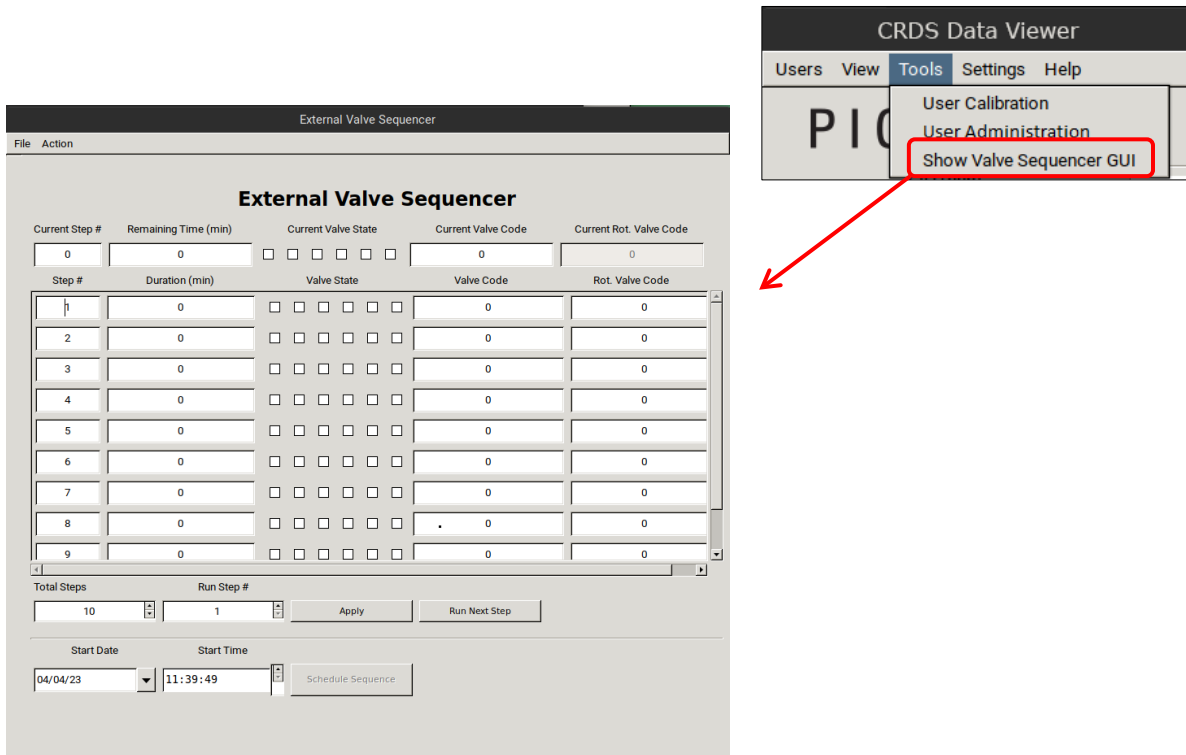

Figure 93: Launching the Valve Sequencer GUI
- Once the valve sequence has been programmed, it can be saved by selecting **Save Valve Sequence File** under the **File** menu (Figure 93). The sequence may be saved with any name the user chooses.